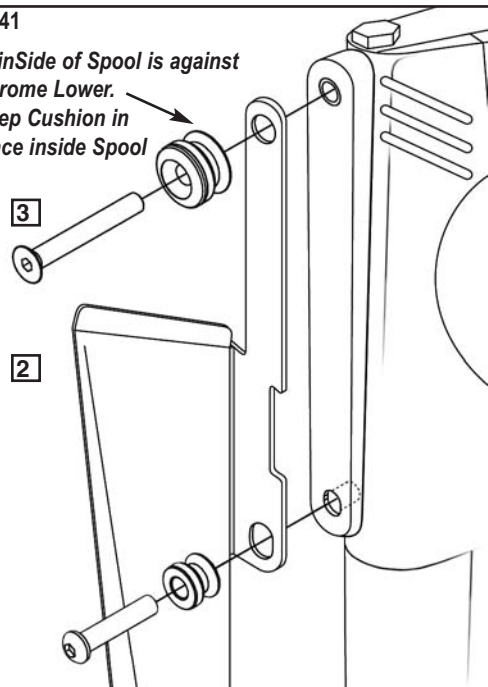

Figure 1.
1. Remove the Upper and Lower Spools from one side of the mount kit. Remove the Roller Cap from the Upper Spool, and reverse, thin side of spool is against Chrome Lower now (Figure 1). Keep Cushion in place.
2. Refer to figure 1. and install Chrome Lower. Use the supplied 2 1/4" Screws at the upper location. Be certain to reverse the Spools so the thin side of the Spool is against the Chrome Lower. Repeat on opposite side.